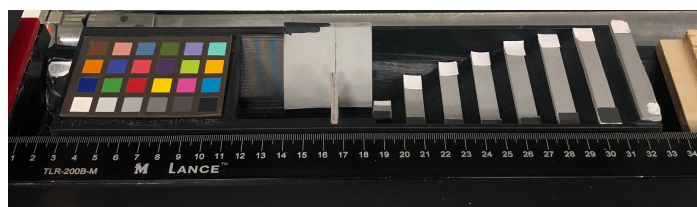
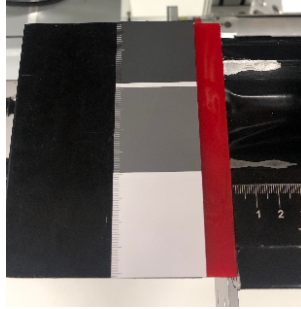

Figure 20: 3D standard with Xrite Color checker (MacBeth Color) standard on the left.
Figure 21: QP card 101 v4 grey scale standard.
- Note which version of standard you are using. Each color standard values vary based on the version and the manufacturer of the standard. The XRite Colorchecker 2019 (MacBeth standard, Figure 20) is the preferred card to use for calibration. The program is set up to use the White and Black squares on the XRite Colorchecker (MacBeth standard). On the MacBeth standard the RGB values of White and Black are listed here. White RGBs are 242, 242 and 236 and black RGBs are 49, 49, 50. For the QP 101 v4 card, the RGB values are 235, 111, and 80 (Figure 21). All SHIL calibration standards are found in drawer PP-2B.
- Obtain the 3D standard (Figure 20), the gray silicone mat standard and the lens cap from PP-2B.